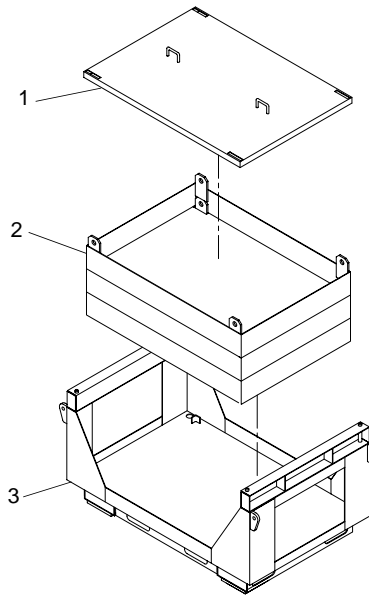

Figure 16. Hardware Storage Pallet
13. Using forklift, remove drawer cover (figure 16, item 1) from top drawer (figure 16, item 2) in pallet (figure 16, item 3).
14. Using forklift and slings, remove each drawer (figure 16, item 2) from pallet (figure 16, item 3) and place them on deck.
15. Store ground tackle and tensioning gear in drawers (figure 16, item 2).
16. Using forklift and slings, place storage drawers (figure 16, item 2) in pallet (figure 16, item 3).
17. Using forklift, place drawer cover (figure 16, item 1) on top drawer (figure 16, item 2) in pallet (figure 16, item 3).